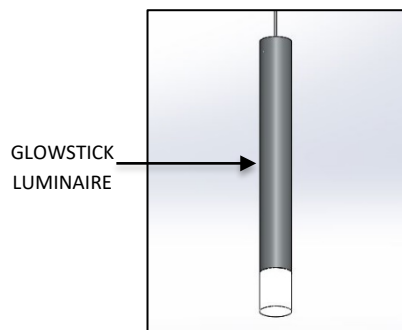

FIG. 2 GLOWSTICK LUMINAIRE (PRE-ASSEMBLED)
1. GLOWSTICK LUMINAIRE with CORD attached. (Pre-assembled as shown in FIG. 2)